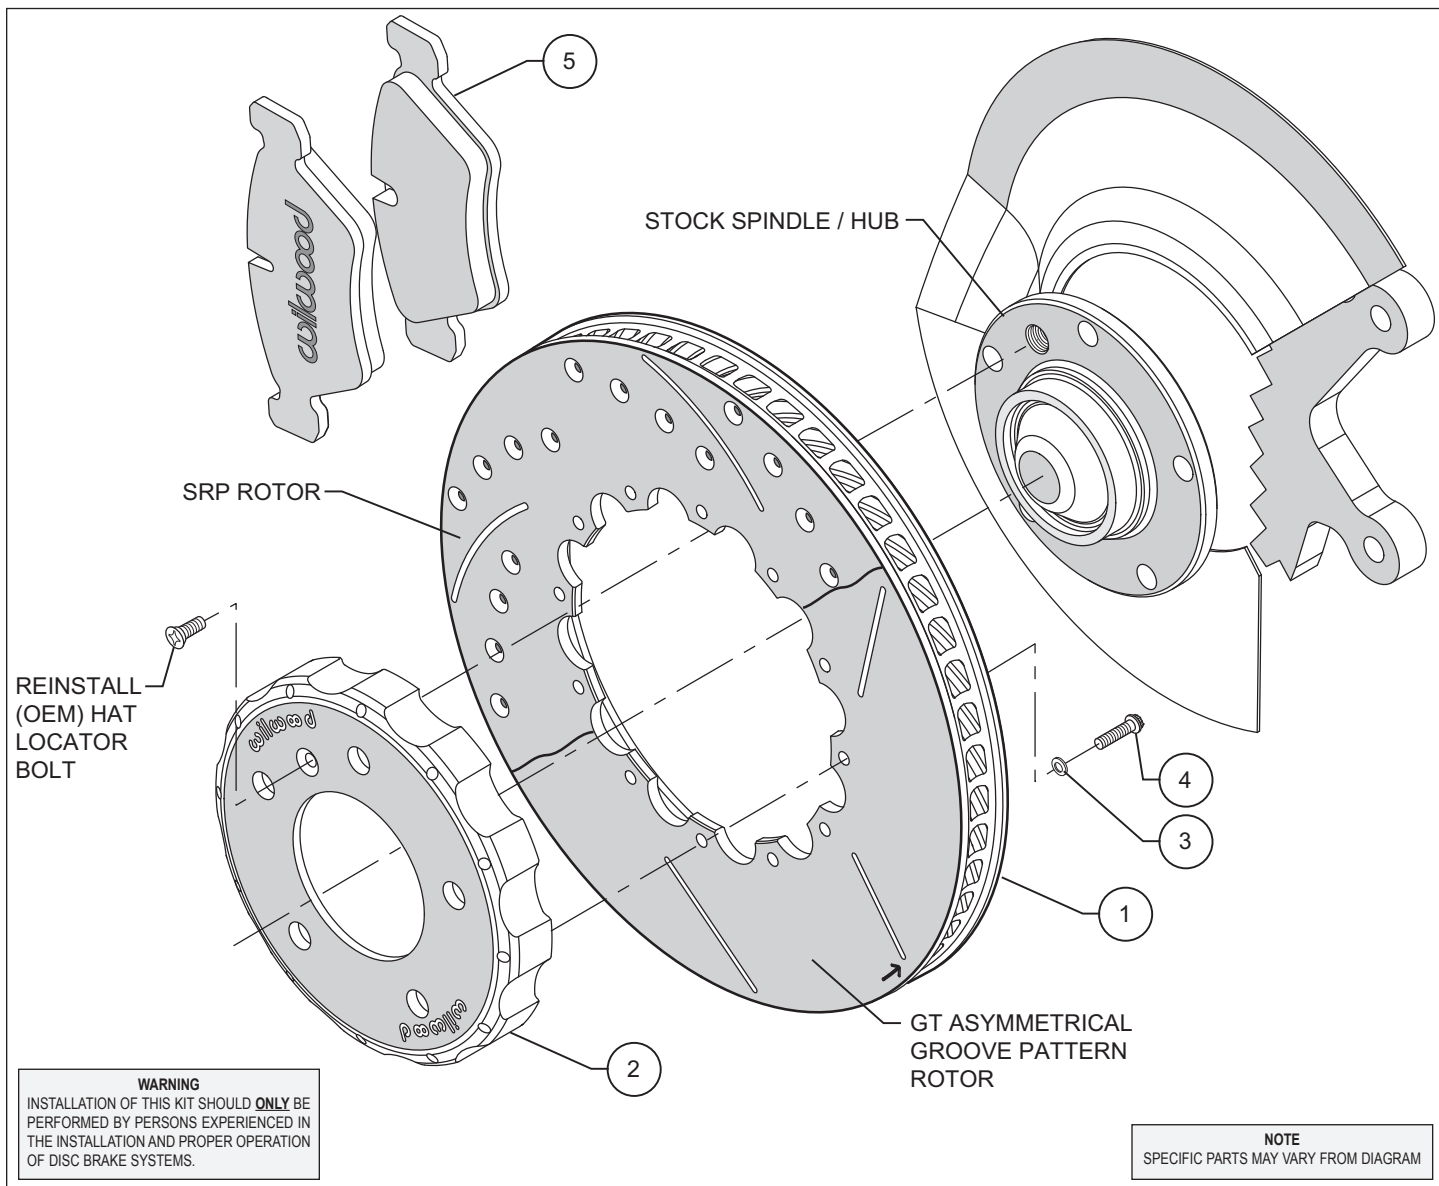
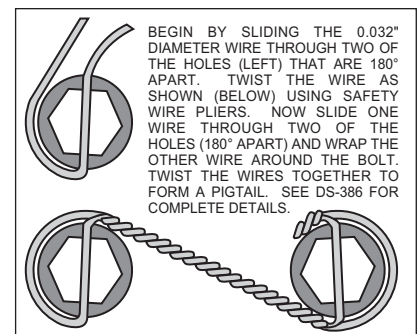

Figure 1. Typical Installation Configuration
Figure 2. Safety Wire Diagram
- With the larger I.D. side of the rotor (1) facing away from the hat (2), bolt the rotor (1) to the hat (2) through the backside of the rotor using bolts (4) and washers (3) as shown in Figure 1. Be sure all bolts thread in smoothly and are snug. Then, torque all bolts in an alternating sequence to **85 in-lbs**. The rotor mounting bolts (4) must be lockwired using standard 0.032 inch diameter stainless steel safety wire as shown in Figure 2. Please refer to Wilwood's data sheet DS-386 (available at www.wilwood.com/pdf/ds386.pdf) for complete safety wire installation instructions.
- Align the hole pattern on the hat (2) with the bolt pattern on the hub. Slide the hat and rotor assembly (1 and 2) onto the hub. Check to be sure the hat seats squarely against the hub face. The hub must be free from any rust, debris, casting burrs, machining irregularities, etc. Use the hat locator bolt (saved from disassembly) and several wheel bolts to hold the rotor and hat firmly against the hub face.
- Install new Wilwood BP-10 brake pads (5) into stock caliper.